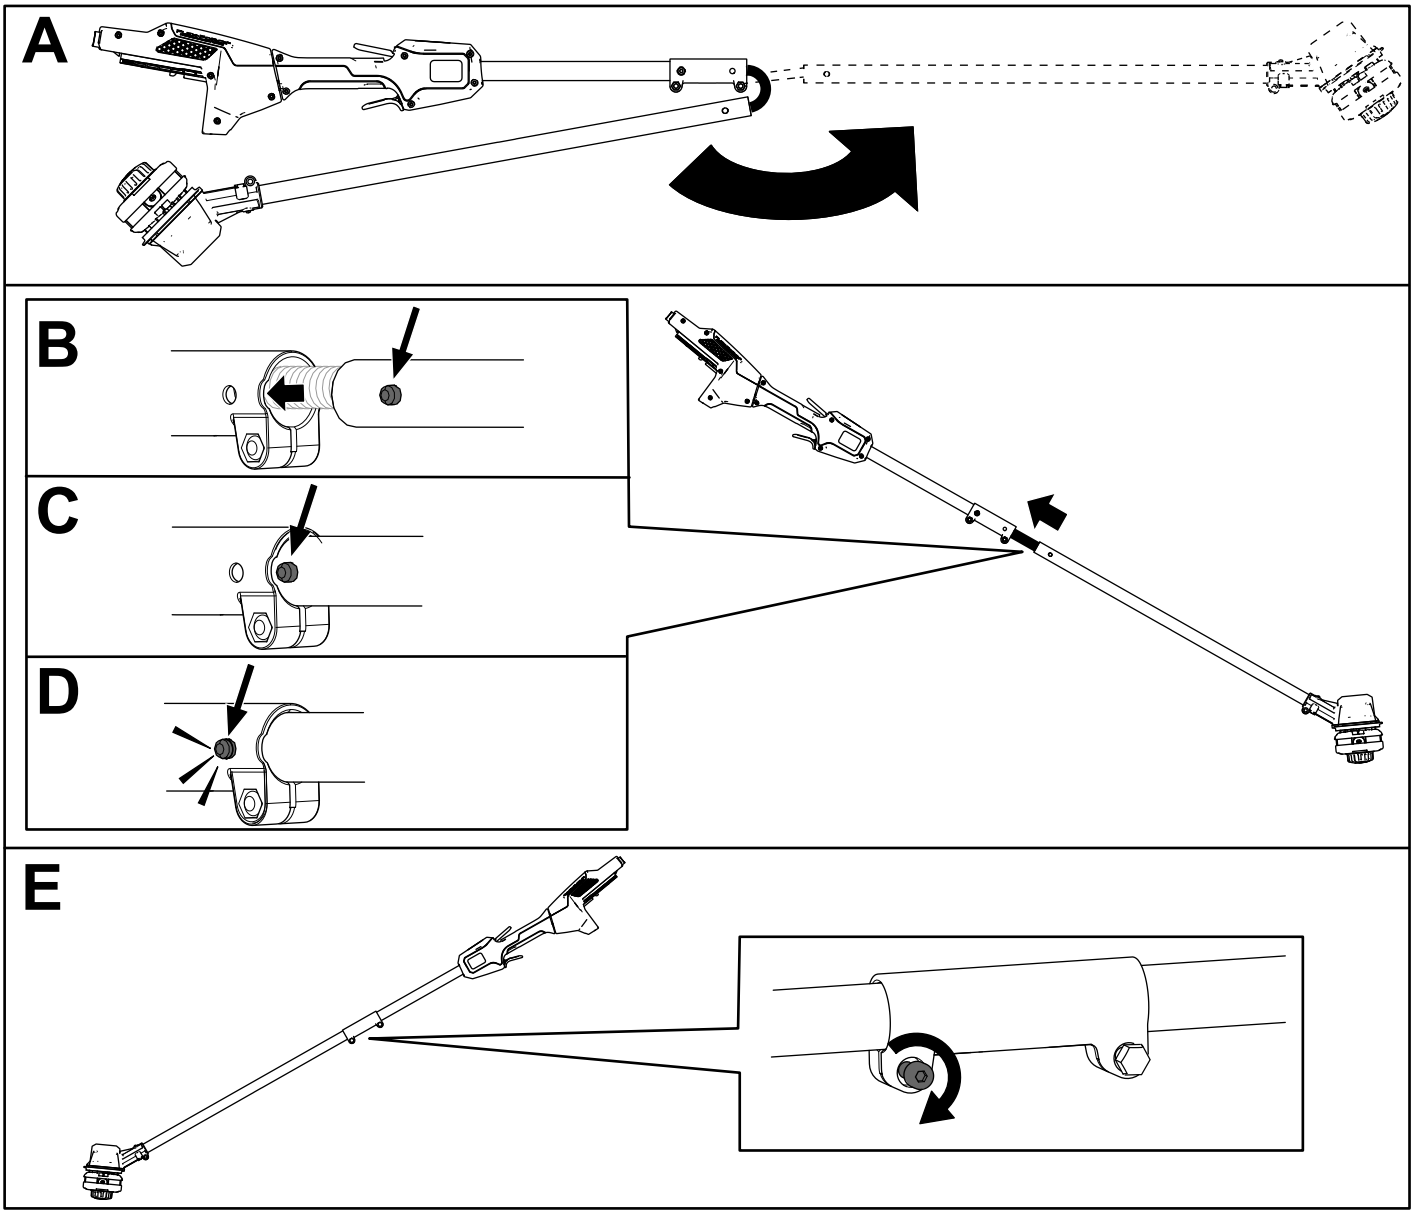

Figure 1
1. Unfold the shaft (A of Figure 1).
2. Align the locking button on the lower shaft with the slotted hole on the upper shaft and slide the 2 shafts together (B and C of Figure 1).
Note: The locking button clicks into the slotted hole when both shafts are secured (D of Figure 1).
3. Using the provided Allen wrench, tighten the screw on the shaft connector until it is secure (E of Figure 1).